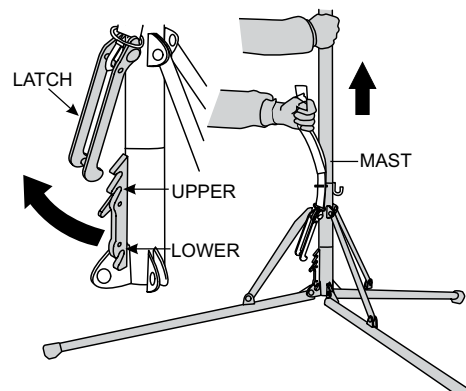

Figure 24. Retracting Tripod Legs
6. To retract tripod legs (Figure 24) and place in the stow position, lift up on mast while pulling up on the velcro strap. Continue pulling upward on the mast until the tripod legs are fully retracted and are in the stow position.